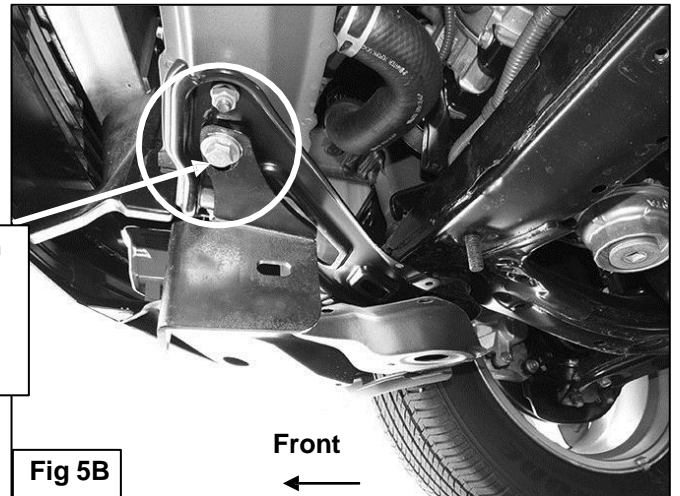

Fig 5B
5. Select the passenger side Mounting Bracket, (Figure 5A). Locate the two factory bolts on the crossmember brace leading towards the bumper, (Figures 4B & 5B). Remove the factory hex bolt towards the outside of the vehicle. Position the driver side Mounting Bracket up to the bottom of the crossmember brace. Bolt the Mounting Bracket in place on the bottom of the brace using the included (1) 10-1.25mm x 35mm Fine Thread Hex Bolt, (1) 10mm Lock Washer and (1) 10mm Flat washer, (Figure 5B). Snug but do not tighten hardware at this time.